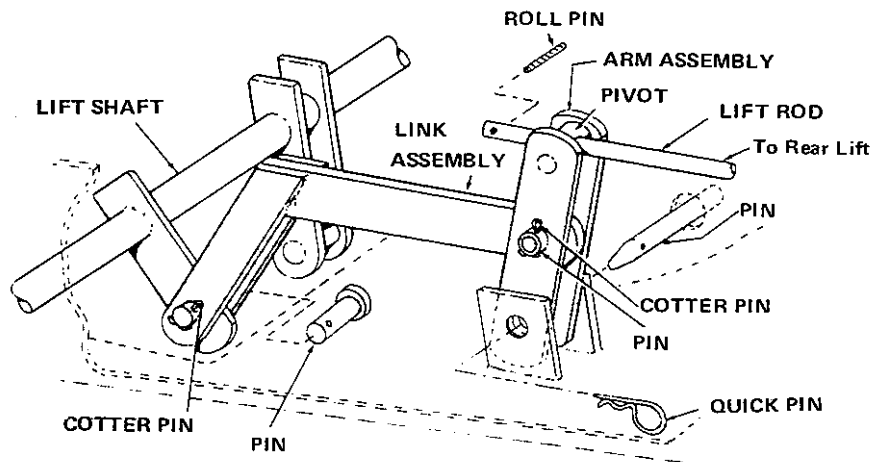

FIGURE 1
8. Attach the Arm Assembly to the brackets welded on the frame using the long pin. (Figure 1.) Push the pin through the hole from on the right side of tractor, then install quick pin.